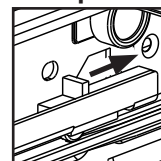

Fig. 35
- **To remove a drawer slide (center slide containing rollers):** Open the stop levers (one on each side) by sliding them to the rear. See Fig. 35. Lift up on the drawer slide slightly, then pull to disengage the drawer slide. **WARNING! Be sure to close the stop levers when reinstalling the drawer.** Drawer slides do not require lubrication, but drawer slides should be kept clean and free of food.